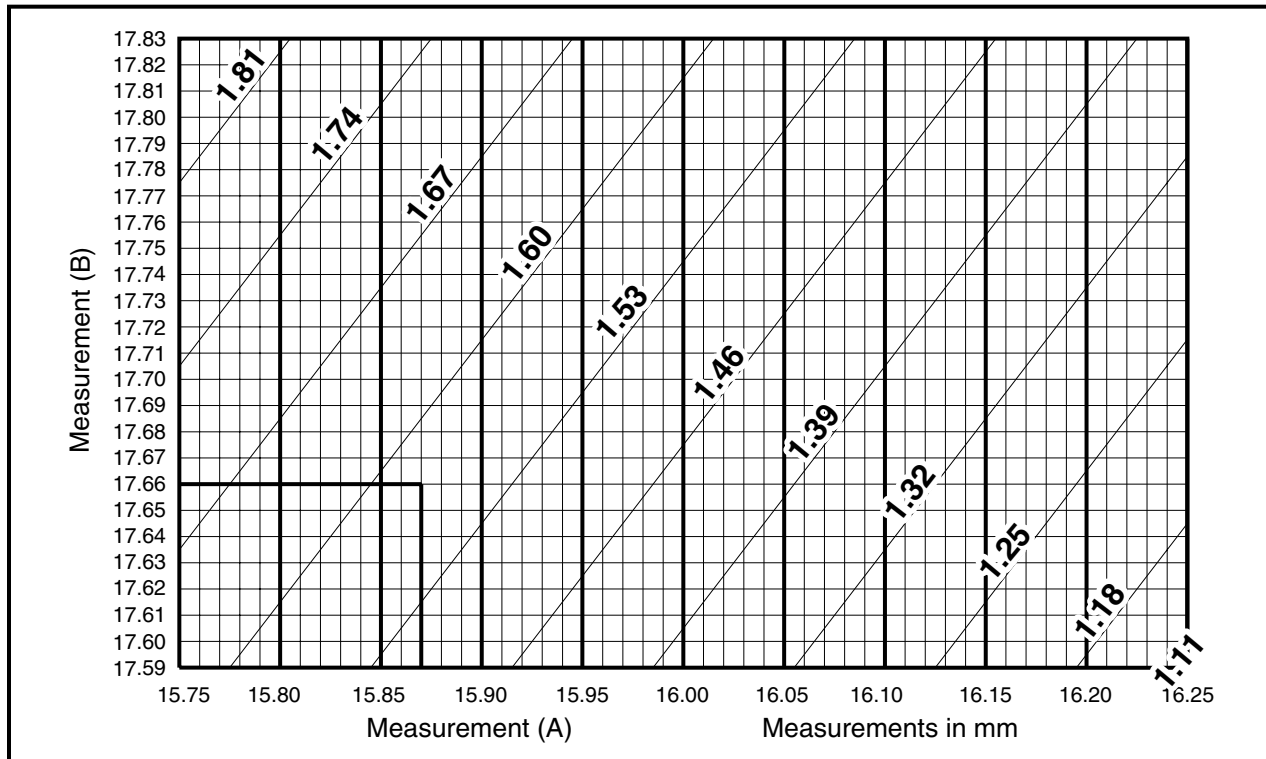

Figure 3-93 Crankshaft Shim Table
3. Locate the measurements on the Crankshaft Shim Table. Follow lines to where the recorded measurements intersect (**Figure 3-93, Page 3-43**).